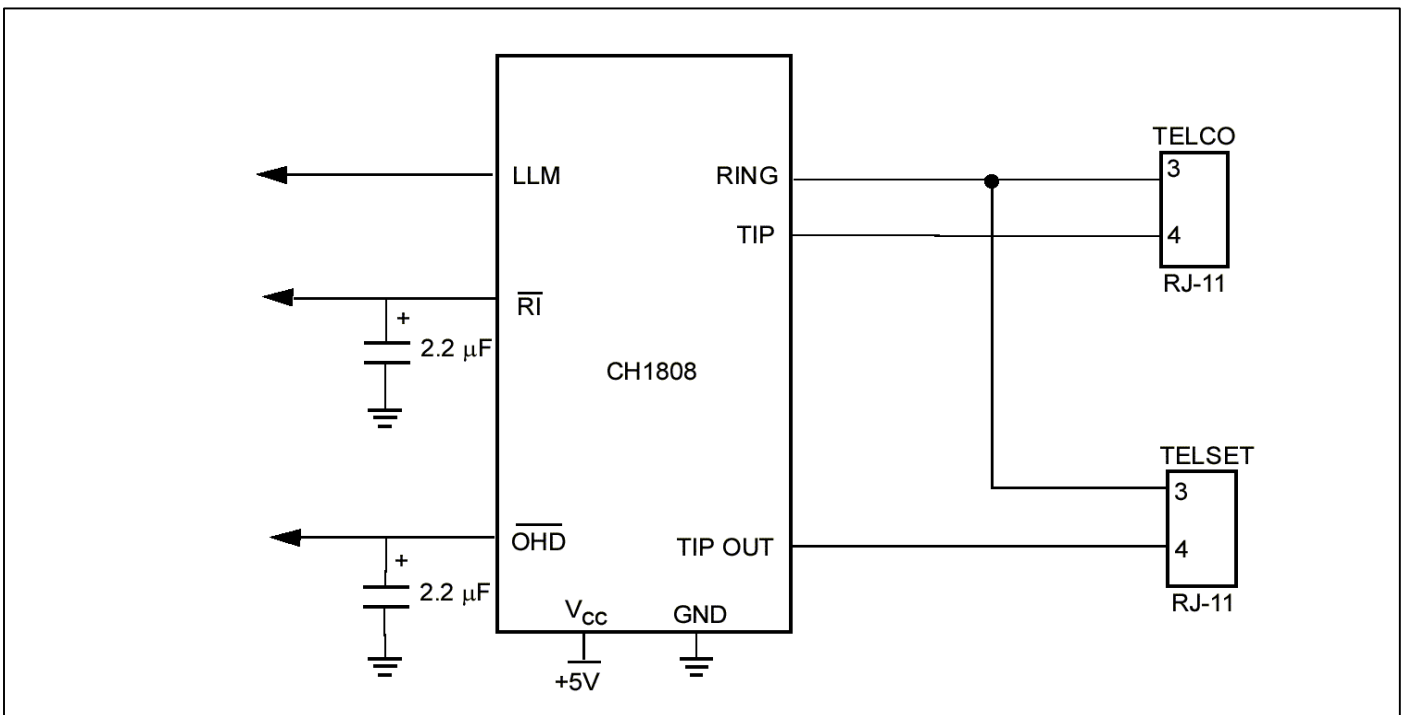

Figure 4. Disconnect Detect for Telset Unit connected to TIPOUT and RING.
Remote Disconnect Detect. The Off-Hook Detect circuit may be utilized to signal when a remote call has terminated. To use the CH1808 in this mode, connect the user equipment to RING and TIP OUT as shown in Figure 4.
5. No additional circuitry shall be connected between the CH1808 and the PSTN line's RJ-11C jack except as shown in Figure 4.